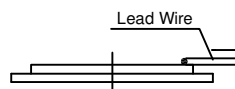

Fig.3.2 Direction of Lead Wire
a) Wire to be soldered on ceramic at the edge. It should withstand minimum 20N force applied in 180° .The wire should not come out before this .The ceramic can be either glued on a surface of can be held in hand.(Fig.3.2)